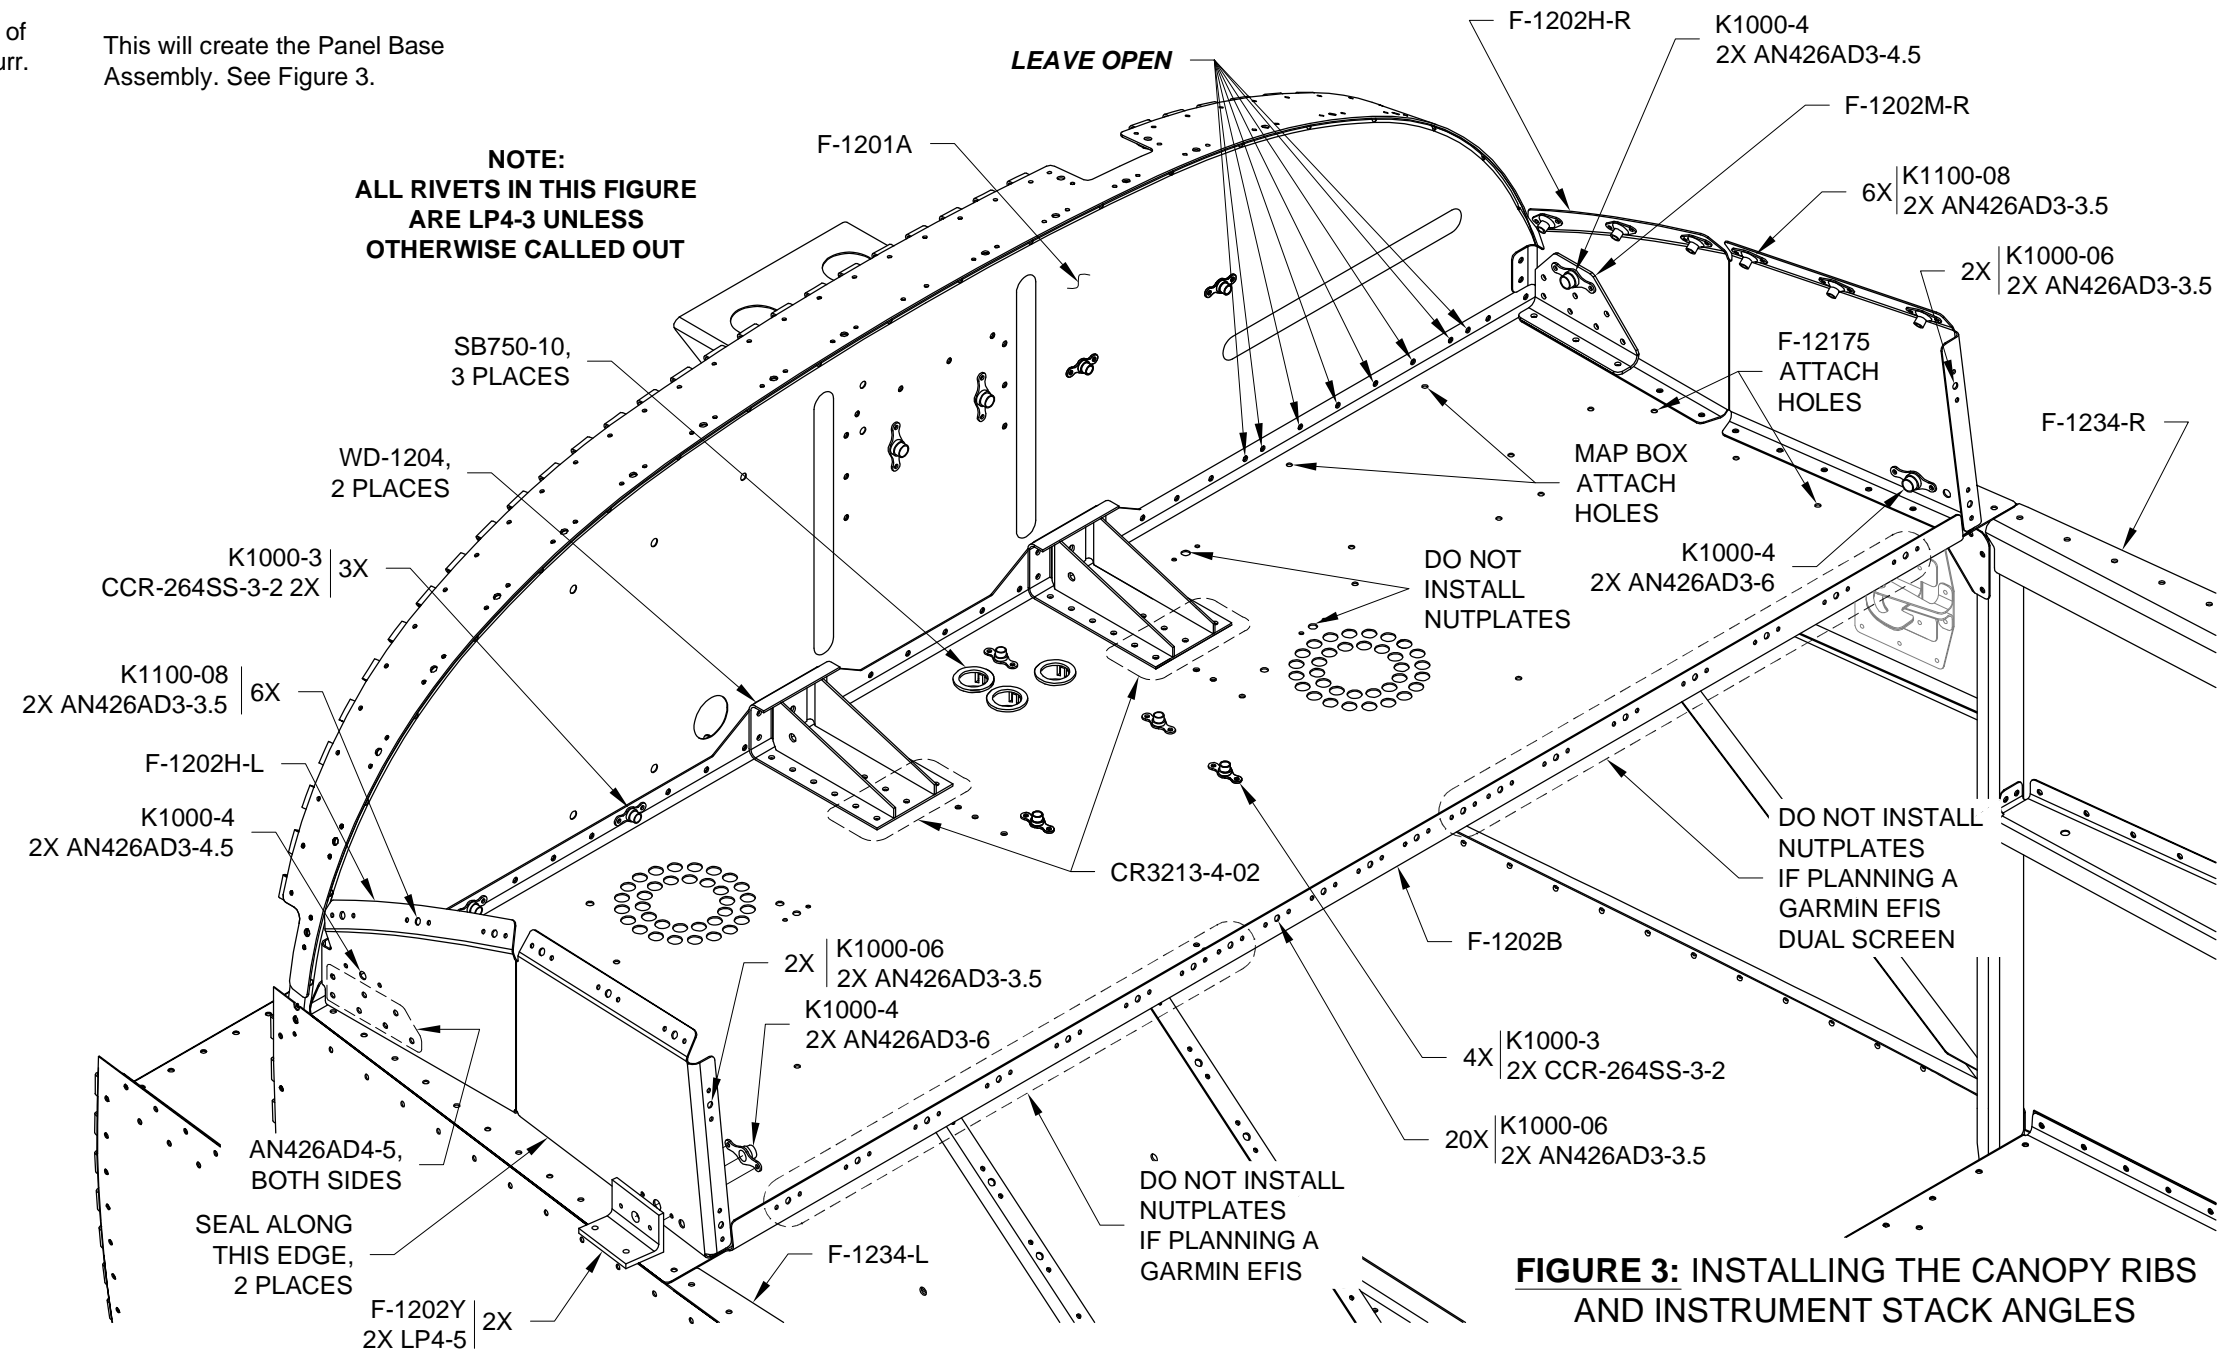

FIGURE 3: INSTALLING THE CANOPY RIBS AND INSTRUMENT STACK ANGLES
This will create the Panel Base Assembly. See Figure 3.
Step 9: Insert two (non slitted) SB750-10 Snap Bushings in the web of the F-1202B Panel Base as shown in Figure 3.
Step 10: Rivet the Panel Base Assembly to the F-1201A Firewall Upper and F-1255-L and -R Longerons. Rivet on the three nutplates common to the Panel Base Assembly and the firewall upper. Rivet the F-1202H-L and -R Canopy Rib Assemblies to the Panel Base Assembly and firewall upper. See Figure 3.
Step 11: Seal the base of the F-1202H-L & -R Canopy Rib Assemblies with Tank Sealant. See Figure 3.